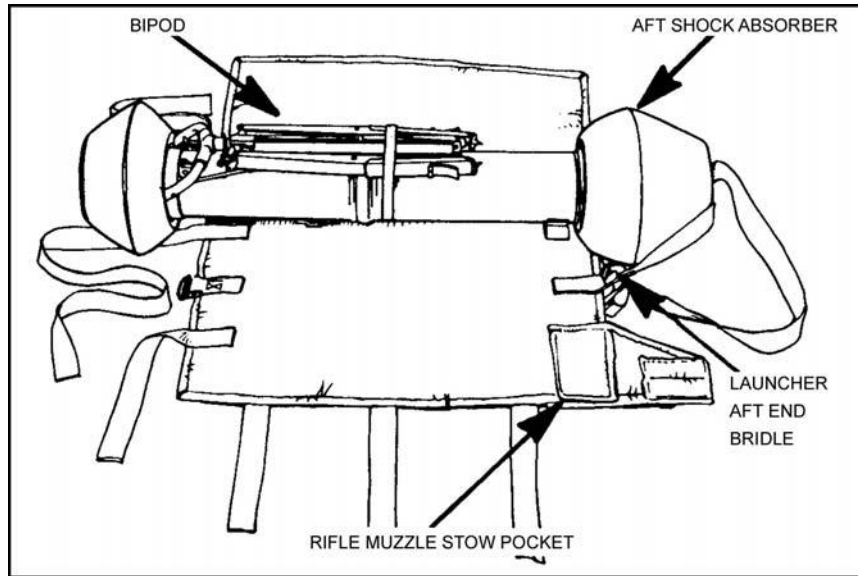

Figure 12-30. Missile being positioned.
- (1) Place the pack with the felt side of the pack body facing up and extend all straps.
- (2) Position the missile in the pack with the bipod facing up (Figure 12-30).
- (3) Fit the aft shock absorber (large end) into the launcher aft end bridle of the jump pack.